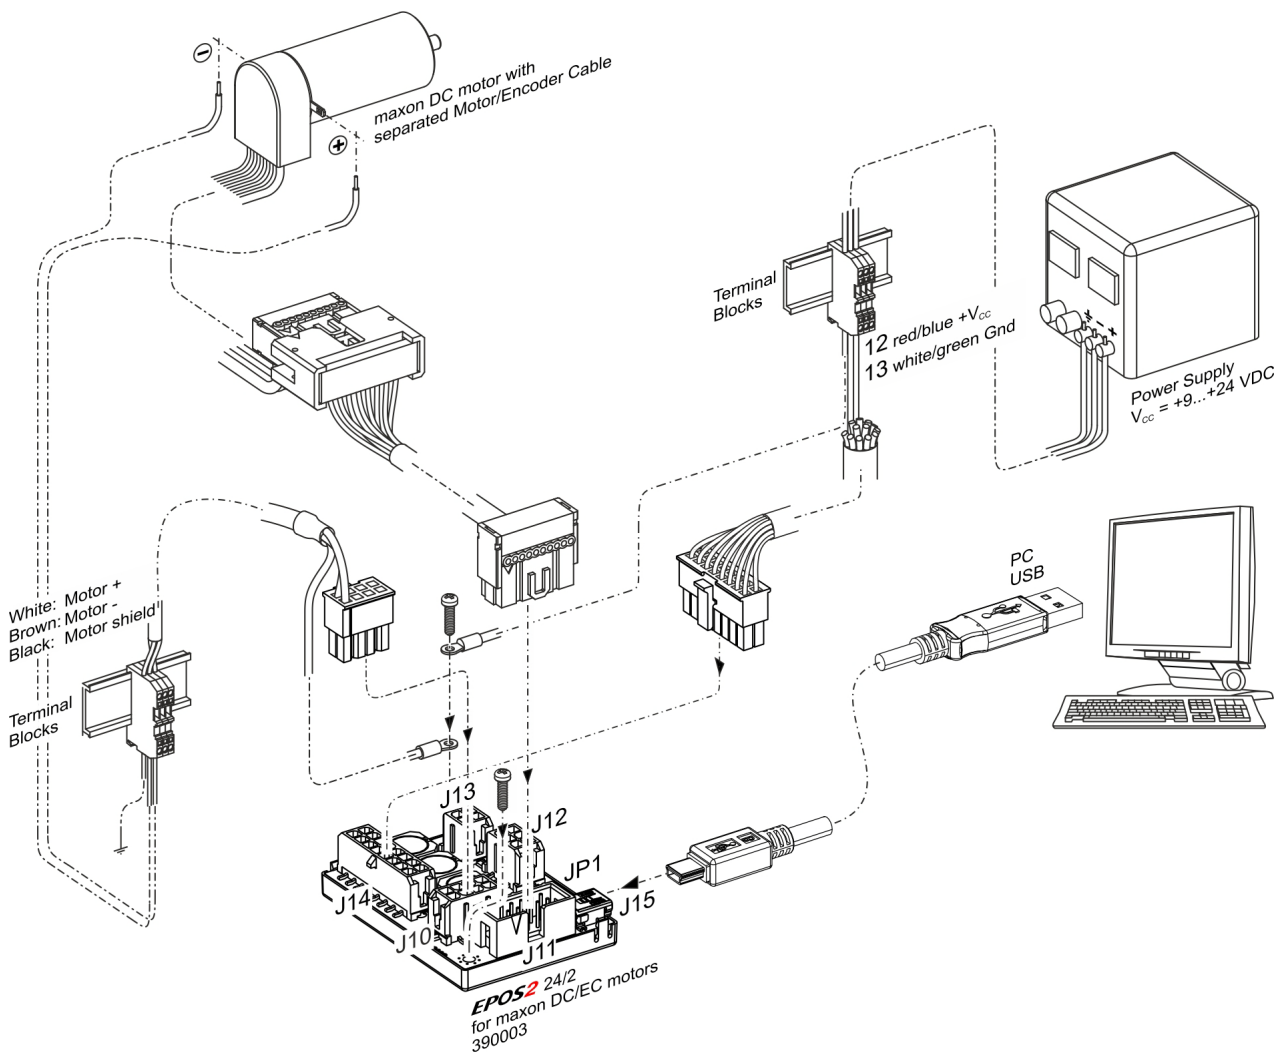

Figure 3-4 Minimum Wiring: maxon DC motor (separated Encoder Cable)
- 2) Connect maxon cable assemblies (→ Table 3-7 and Figure 3-4).